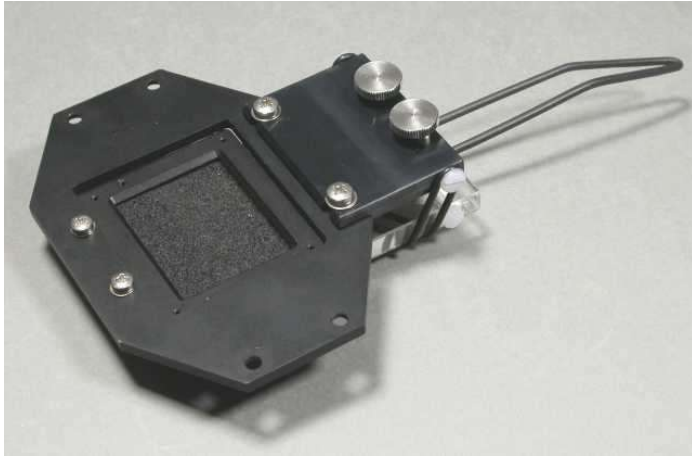
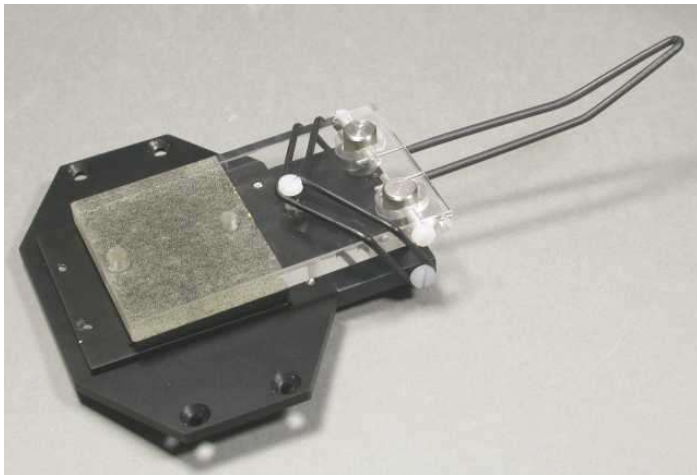
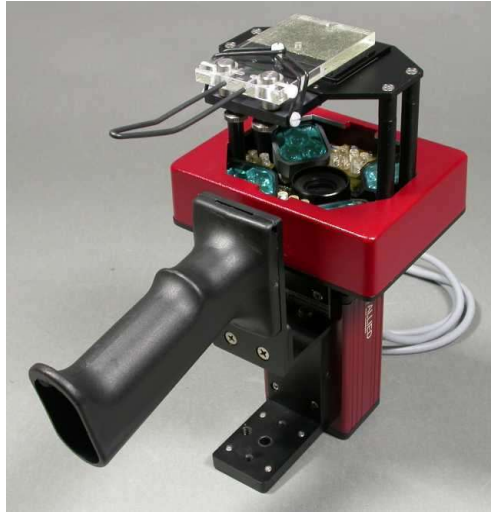

Fig. 31: Leaf clip mounted on sample platform of MINI-Head viewed from camera side
Fig. 32: Leaf clip mounted on sample platform of MINI-Head viewed from top side
Fig. 33: Leaf clip and grip holder mounted on MINI-Head
When the Leaf Holder is ordered separately from the MINI-Head, it must be assembled by the user. Fig. 30 shows the components of the Leaf Holder. The following figures (Fig. 31 - Fig. 33) may help to put the various parts together.
First the frame (1) is mounted with two screws (2) on the sample platform of the MINI-Head. Then the clip (3) is fixed with two screws (4) to the sample platform. While Fig. 31 shows the mounted clip from the bottom (camera) side, Fig. 32 shows it from the top side. On the Perspex top side of clip the nylon screw (5) is fixed which holds the two O-rings (6) which function as a spring forcing together the two parts of the clip (see Fig. 31 and Fig. 32). The O-rings may age and then have to be replaced. For this purpose, the spare O-rings (7) are provided. The grip (8) is fixed with the two screws (9) via a metal angle to the camera, as shown in Fig. 33.